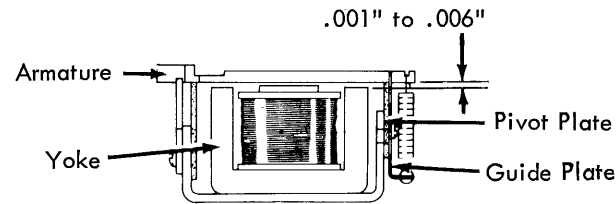
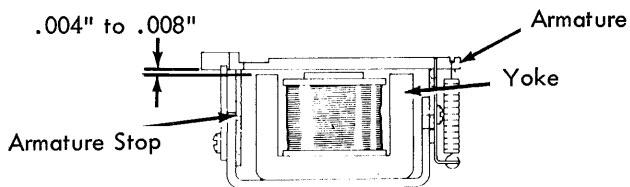

FIGURE 28. Armature Stop
FIGURE 29. Armature Stop
3. Armature Stop - With the armature manually attracted, adjust for a clearance of .004" to .008" between the armatures and yokes (Fig. 29 - see Fig. 28 for assembly end view). Measure clearances at the outside armatures (T2 & R5).
4. Armature Guide - Position horizontally so that the armatures are centered in the guide slots (Ref. Fig. 28).